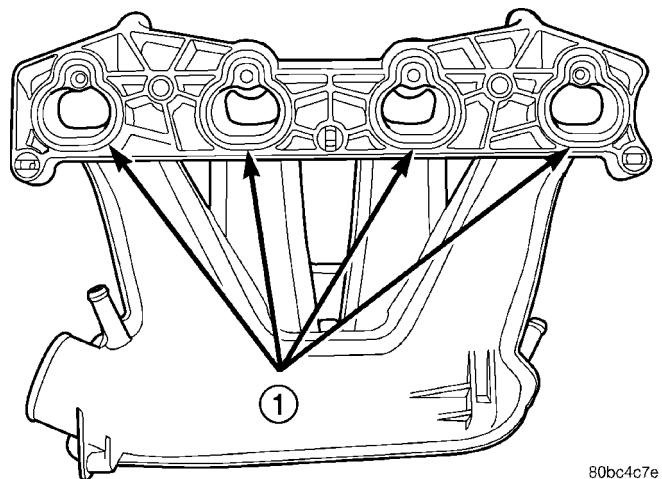

Fig. 134 Intake Manifold Gaskets
- Check for torn or missing O-rings at the mating surface of the manifold (Fig. 134).
Before installing manifold. Clean all mating surfaces. Replace all O-ring gaskets with new gaskets (Fig. 134). All intake manifold fasteners and washers are to be discarded and **NEW** fasteners and washers are to be used.